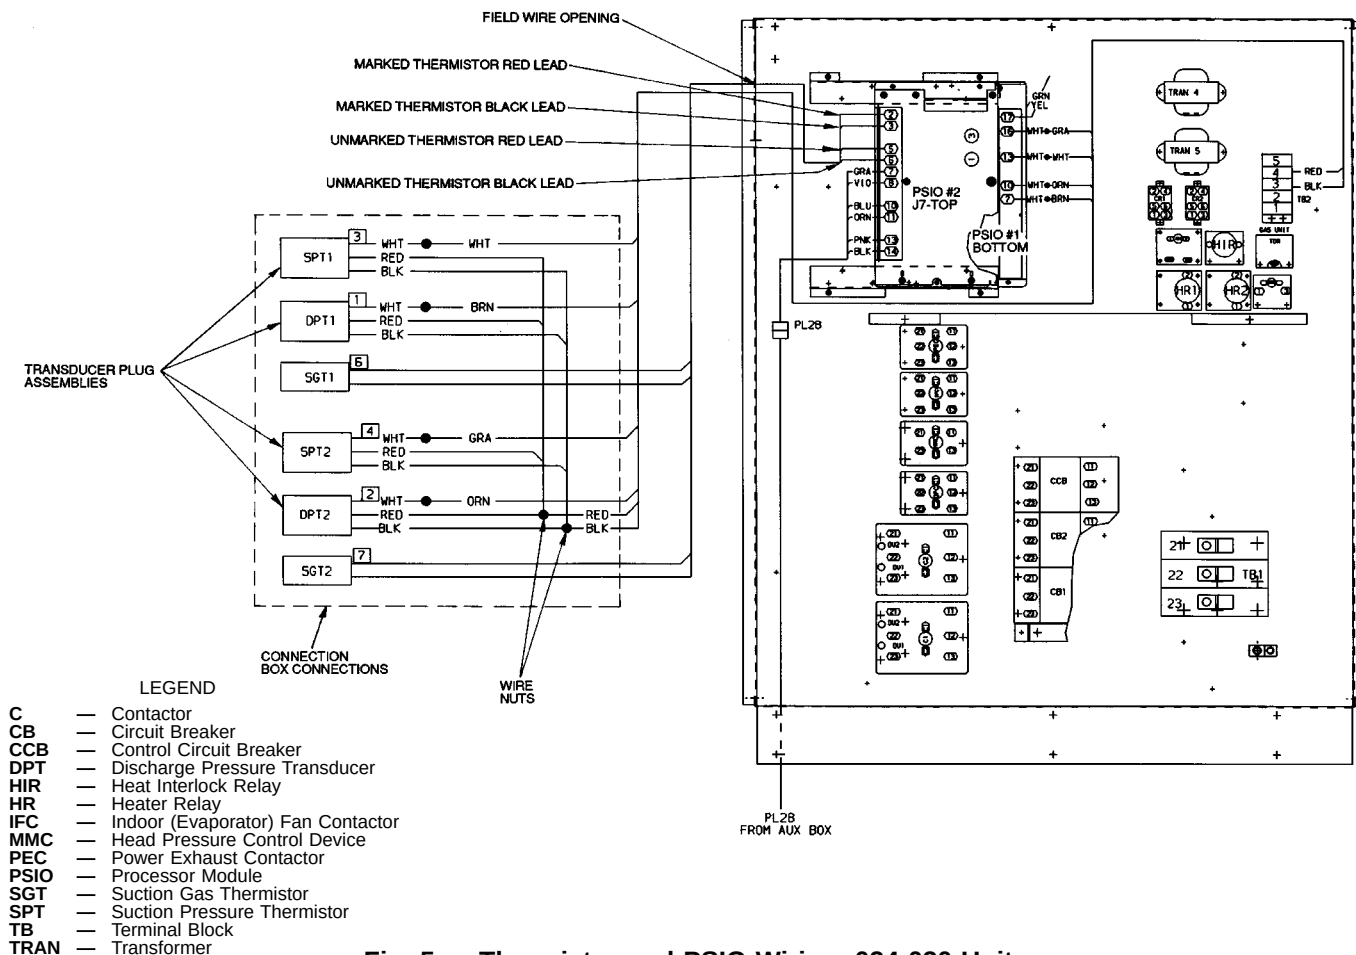

Fig. 5 — Thermistor and PSIO Wiring, 024-030 Units
3. Run the lead end of both thermistors into the control box through the field wiring opening on the right-hand side of the control box and over to the accessory PSIO2 (See Fig. 5).
4. Connect the red and black leads from the marked thermistor to PSIO2, plug J7-TOP, pins 2 and 3, respectively. See Fig. 5.
5. Connect the red and black leads from the unmarked thermistor to PSIO2, plug J7-TOP, pins 5 and 6, respectively. See Fig. 5.
8. Using a wire nut (provided), connect the 4 red wires from the transducer harnesses to the red wire from the unit 6-wire harness. See Fig. 5.
9. Using a wire nut (provided), connect the 4 black transducer harness wires to the black wire from the unit 6-wire harness. See Fig. 5.
10. Connect the white wire from compressor no. 1 discharge transducer harness to the brown wire from the unit harness (See Fig. 5).
11. Connect the white wire from compressor no. 1 suction transducer harness to the white wire from the unit harness (See Fig. 5).
12. Connect the white wire from compressor no. 2 discharge transducer harness to the orange wire from the unit harness (See Fig. 5).
13. Connect the white wire from compressor no. 2 suction transducer harness to the gray wire from the unit harness (See Fig. 5).